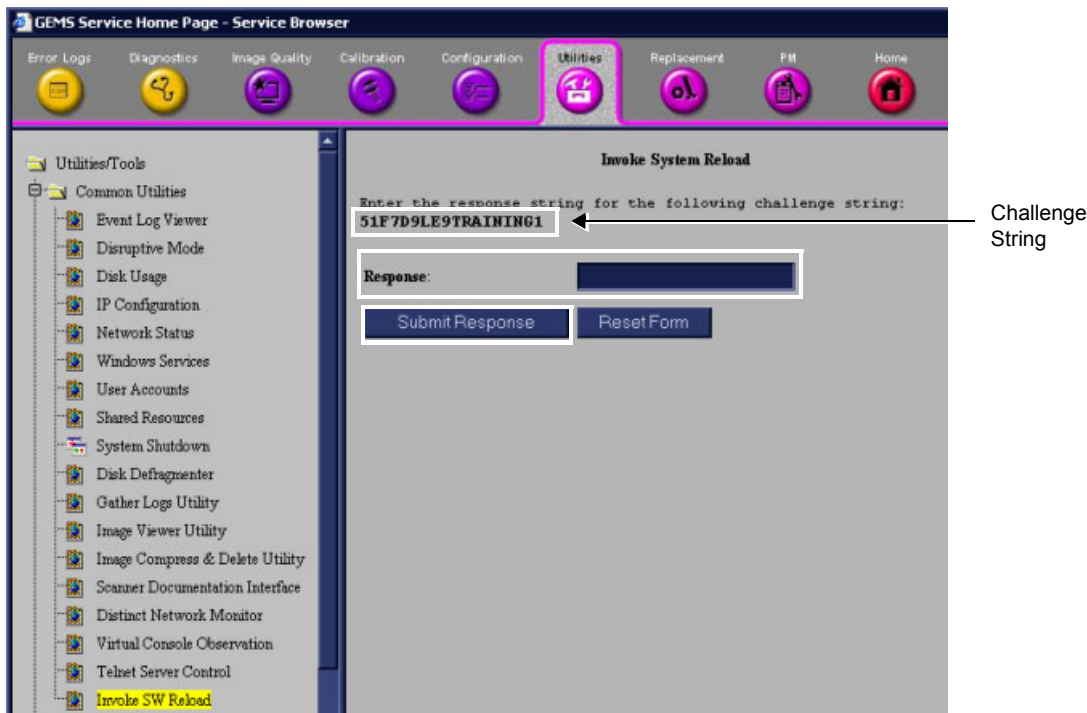

Figure 7-137 Invoke Software Reload
- 1.) From the system, click **Invoke Software Reload** in the left pane of the screen (Figure 7-137).
- 2.) Make a note of the Challenge string displayed in the *right* pane of the Invoke Software screen (Figure 7-137, above).
- 6.) On the Vivid-i™/ Vivid-q™ system, type the Response code in the **Response** field in the pane on the right (refer to Figure 7-137).